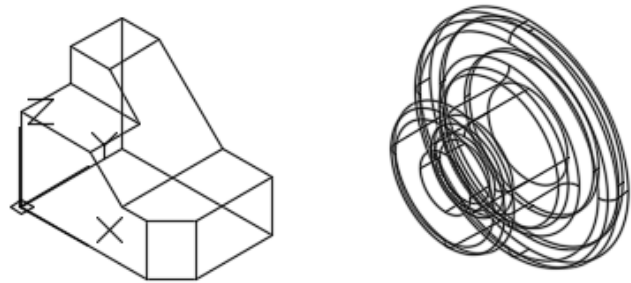

Figure Step 4
Step 4 Set the current view to SE Isometric. Your model should now appear as shown in the figure. (Figure Step 4)